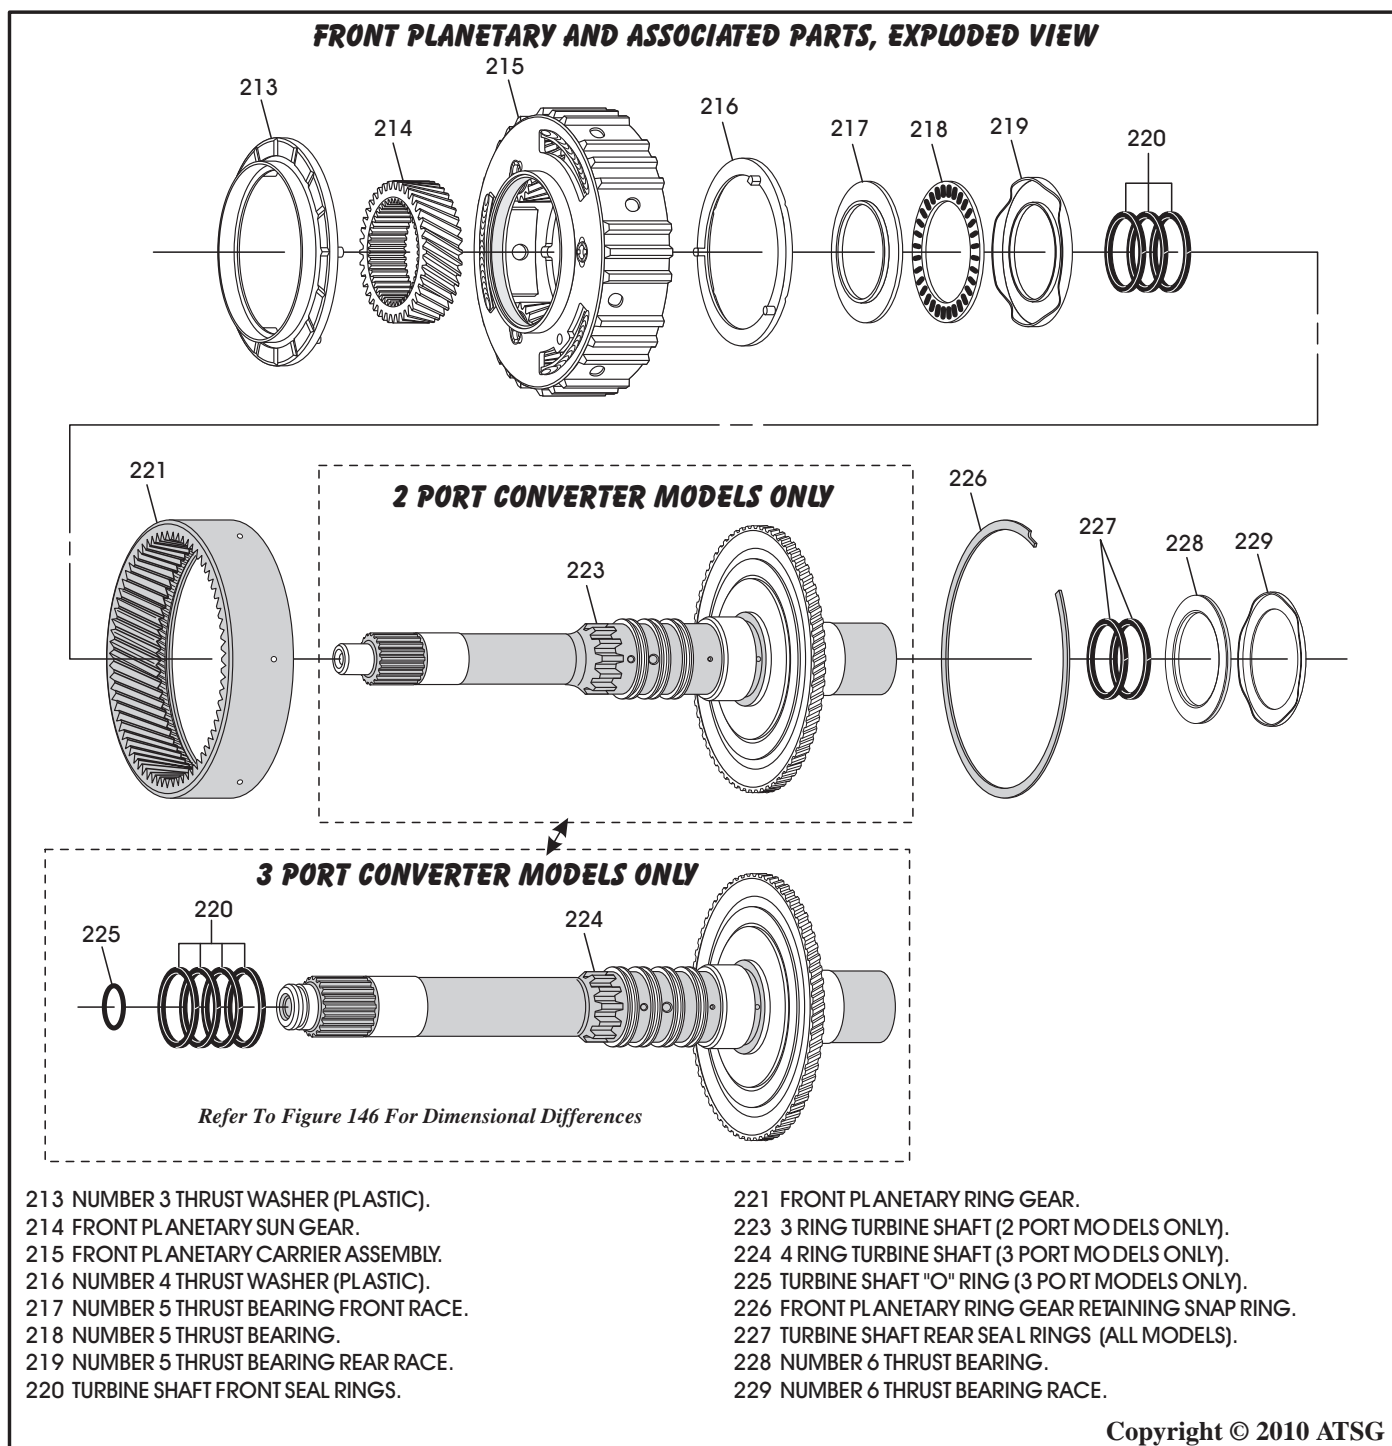

Figure 147
1. Disassemble front planetary assembly using Figure 147 as a guide.